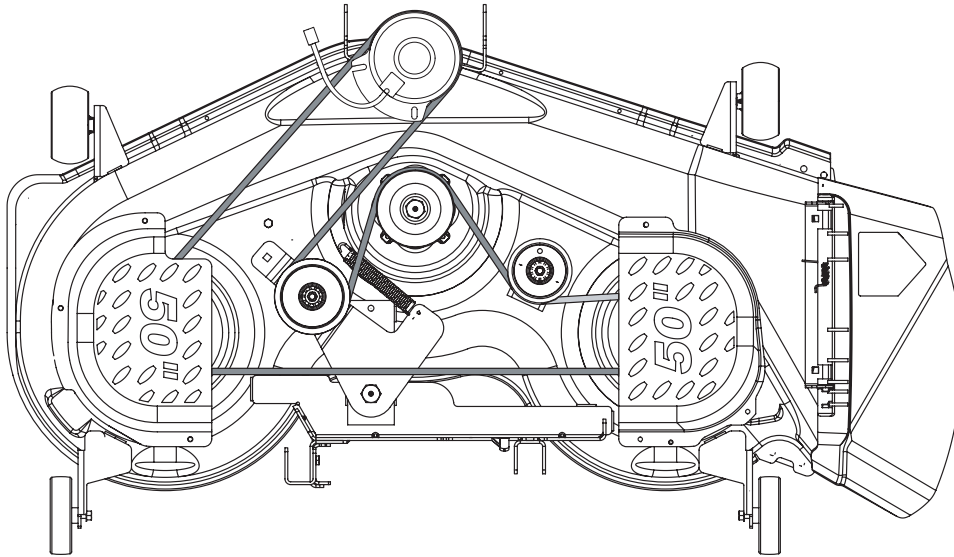

Figure 24
- Route the new belts (deck belt first). See Figure 24.